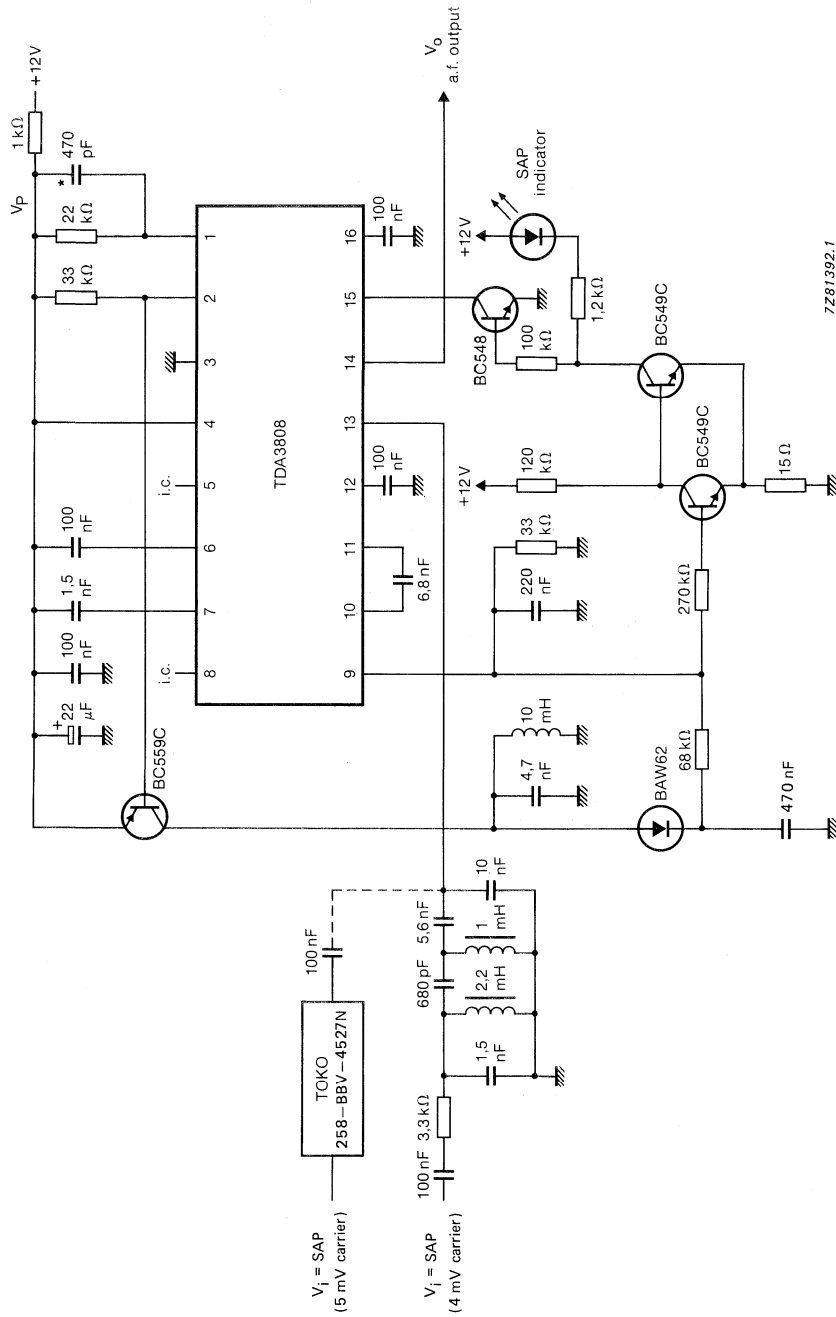

Fig. 4 Application diagram.
**A.C. CHARACTERISTICS** $V_p = 4,5\text{ V}$ ;  $T_{amb} = 25\text{ °C}$ ; measured in Fig. 4;  $f_{rf} = 78,67\text{ kHz}$  modulated with  $\Delta f = \pm 10\text{ kHz}$ ;  $f_m = 0,4\text{ kHz}$ ;  $V_i = 4\text{ mV}$  (e.m.f. at a source impedance of  $75\ \Omega$ ); r.m.s. noise voltage measured unweighted in the range  $f = 300\text{ Hz}$  to  $20\text{ kHz}$ ; unless otherwise specified.